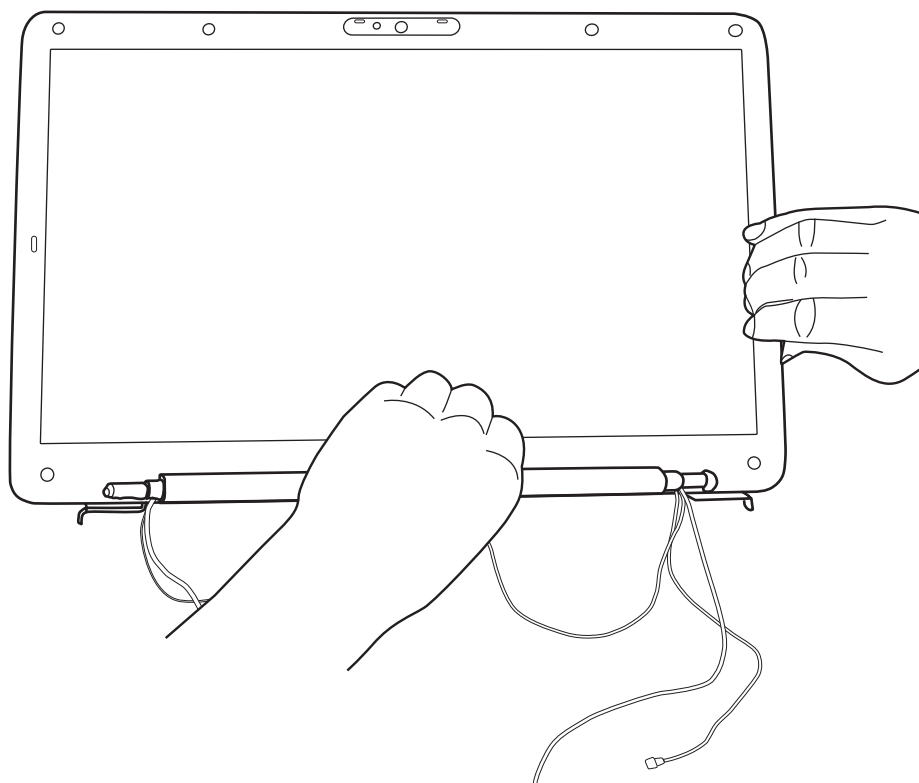

Figure 4.36 Taking out the hinge wall
3. Take out the bezel hinge wall from the cover hinge wall as shown in Figure 4.36.